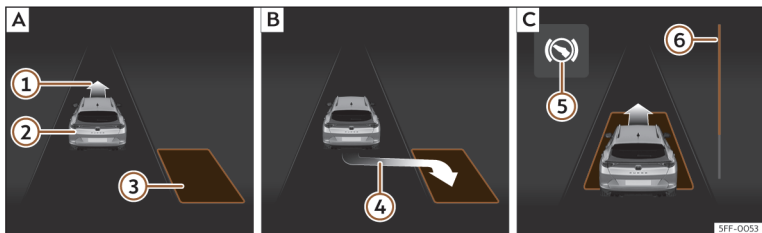
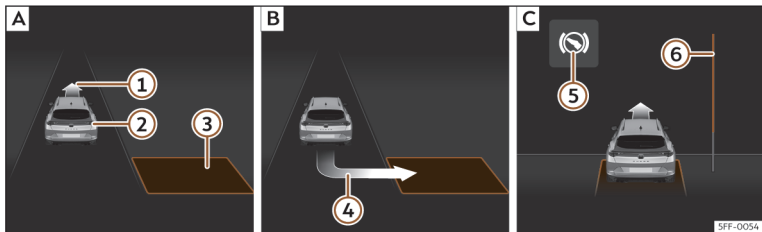

Fig. 160 On the instrument cluster display: parallel parking. **A**: Finding a parking space **B**: Parking position. **C**: Manoeuvring.
Fig. 161 On the instrument cluster display: angle parking. **A**: Finding a parking space **B**: Parking position. **C**: Manoeuvring.
- Look at the instrument cluster screen to see if the space has been detected as “appropriate” and if the correct position for parking has been reached >>> **Fig. 160 B** or >>> **Fig. 161 B**. The space is considered “appropriate” if the instrument cluster display shows the parking indication ④.
- Reverse until the continuous ParkPilot signal sounds; **OR:** reverse until the indication to move forward appears on the instrument panel display >>> Fig. 160 [C] or >>> Fig. 161 [C]; **OR:** reverse until the **Park Assist finished** message appears on the instrument cluster display. The progress bar [6] indicates the distance to cover.
- Move forward until the continuous ParkPilot signal sounds; **OR:** move forward until the reverse indication appears on the instrument panel display. The Park Assist system steers the vehicle forward and back until it centres it in the space >>> Fig. 160 [C] or >>> Fig. 161 [C].
The progress bar >>> Fig. 160 [6] and >>> Fig. 161 [6] on the instrument cluster display shows the relative distance to be covered as a symbol. The greater the distance, the fuller the progress bar. When driving forward, the content of the progress bar decreases upwards, and when reversing, it decreases downwards.